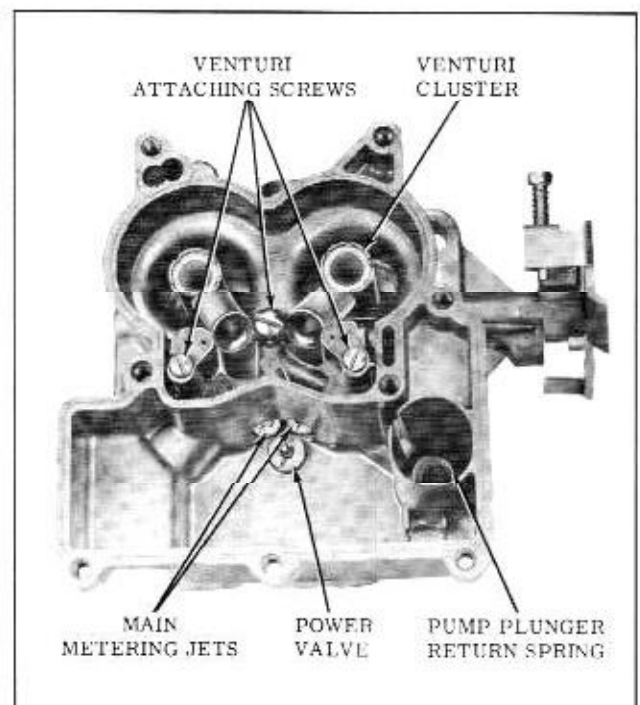

Fig. 8-76 Float Bowl Assembly
- Remove pump plunger return spring from the pump well. (Fig. 8-76)